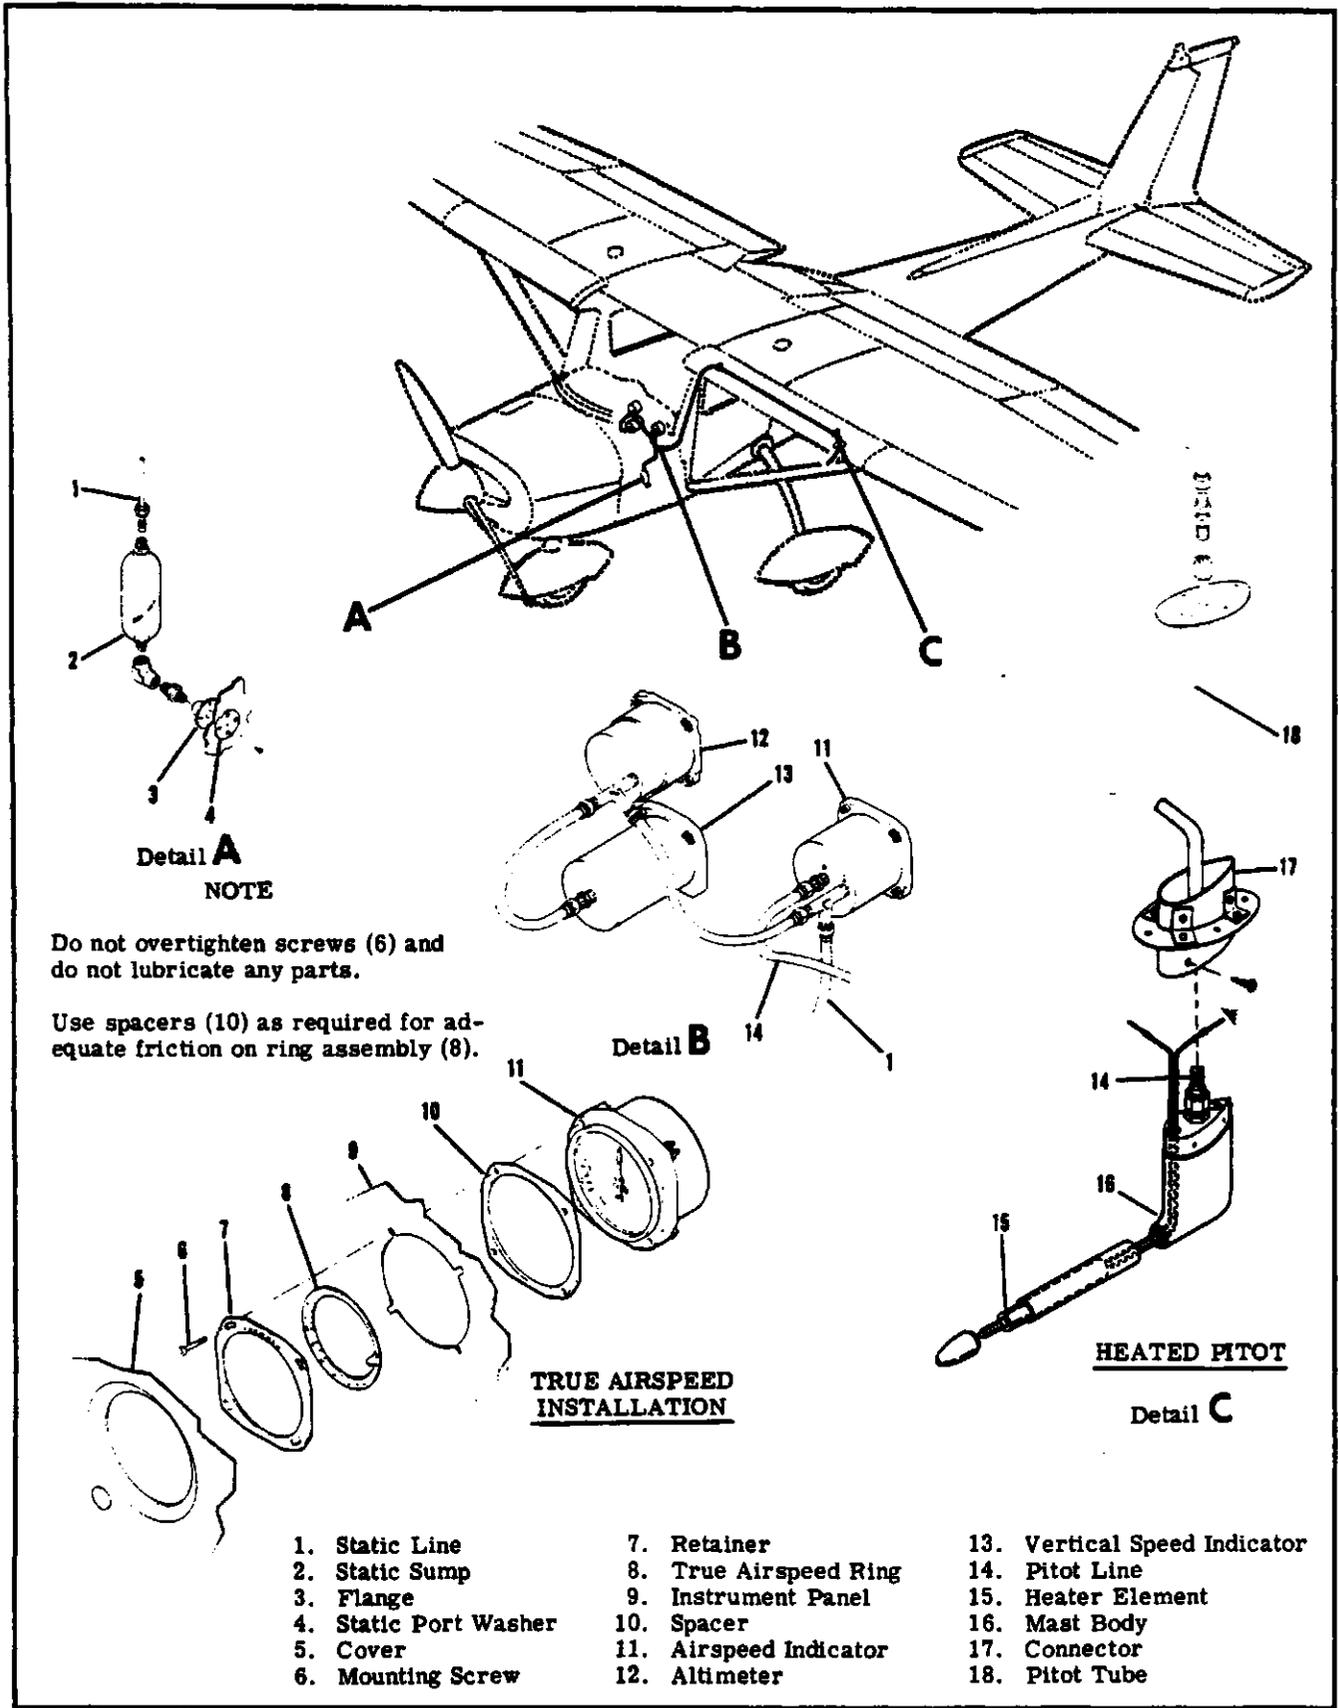
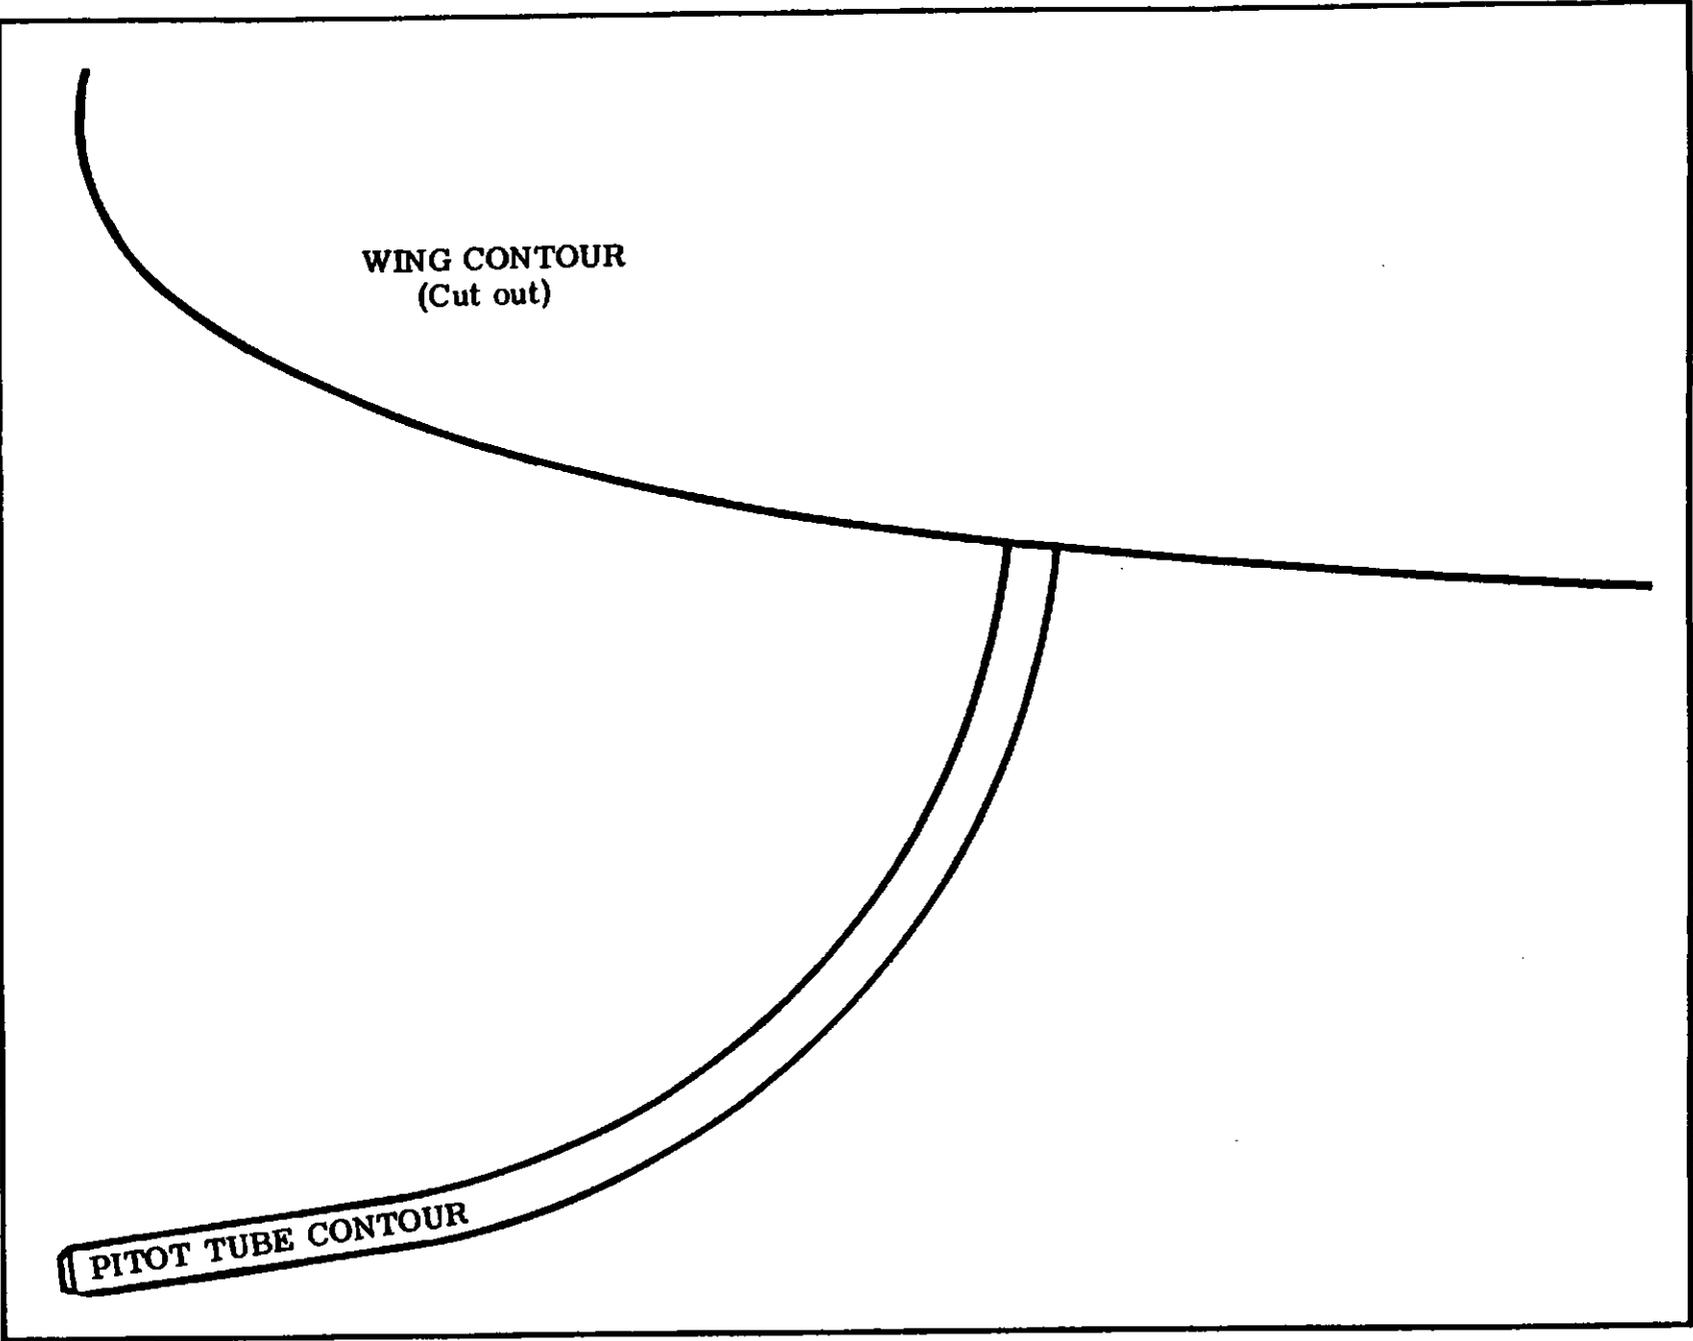

Figure 15-2. Pitot-Static Systems
Figure 15-4. Pitot Tube Alignment Template
15-10. PITOT AND STATIC SYSTEMS. (Refer to figure 15-2.)
**15-16. REMOVAL AND INSTALLATION OF COMPONENTS.** (Refer to figure 15-2.) To remove pitot mast remove four mounting screws on side of connector (17) and pull mast out of connector far enough to disconnect pitot line (14). Electrical connections to heater assembly (if installed) may be disconnected through wing access opening just in-board of mast. Pitot and static lines are removed in the usual manner, after removing wing access plates, lower wing fairing strip and upholstery as required. Installation of tubing will be simpler if a guide wire is drawn in as tubing is removed from wing. The tubing may be removed intact by drawing it out through cabin and right door. When replacing fittings of pitot and static pressure lines, use anti-seize compound sparingly on male threads of both metal and plastic connections. Avoid excess compound which might enter lines. Tighten connections firmly, but avoid overtightening and distorting fittings. If twisting of plastic tubing is encountered when tightening fittings, VV-P-236 (USP Petrolatum), may be applied sparingly between tubing and fittings.
15-18. TRUE AIRSPEED INDICATOR. A true airspeed indicator may be installed. This indicator, equipped with a conversion ring, may be rotated until pressure altitude is aligned with outside air temperature, then airspeed indicated on the instrument is read as true airspeed on the adjustable ring. Refer to figure 15-2 for removal and installation. Upon installation, before tightening mounting screws (6), calibrate instrument as follows: Rotate ring (8) until 120 mph on the adjustable ring aligns with 120 mph on the indicator. Holding this setting, move retainer (7) until
15-23. PITOT TUBE ALIGNMENT. (Refer to figure 15-2.) For correct airspeed indication pitot tube (18) must be properly aligned. Open end of tube must be perpendicular to longitudinal axis of aircraft. A template like the one shown in figure 15-4 will prove the most convenient means of checking alignment. Prior to using template, check that pitot tube parallels row of rivets just outboard of tube. A straightedge may be placed along row of rivets to check the alignment. The template fits over the wing leading edge and should conform to the illustration. The illustration has been drawn carefully to actual size and may be traced directly on a piece of carbon paper between the printed page and the template material, then trace contours.